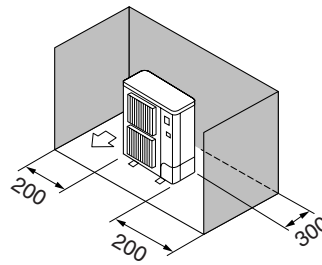

Fig. 2-4
③ Obstacles at rear and sides only (Fig. 2-4)